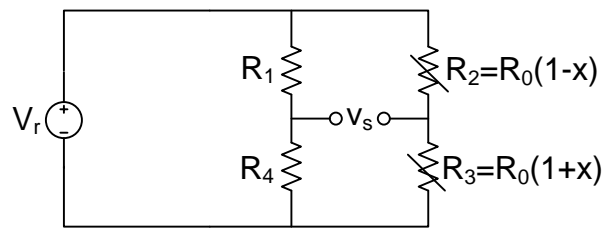

Figure 2: Bridge circuit with two strain gauges.
The two strain gauges and the two fixed resistors are connected in a bridge circuit with a voltage supply  $V_r$ . The electrical equivalent circuit of this sensor is shown in Figure 2.
- (2p) (a) The sensor circuit in Figure 2 contains two active strain gauges. You can also design a pressure sensor with only one strain gauge and three fixed resistors. Mention at least one advantage of the circuit shown in Figure 2 compared to a solution with only one active strain gauge.
- (5p) (c) What value should the voltage supply  $V_r$  have to maximize the sensitivity of the sensor circuit shown in Figure 2 for a change in  $x$ ?
- (5p) (d) Show that the output voltage  $v_s$  of the sensor circuit shown in Figure 2 is equal to  $-1.13 \text{ mV}$  when a pressure of  $100 \cdot 10^6 \text{ N/m}^2$  is applied to the metal strip and  $V_r = 3 \text{ V}$ .